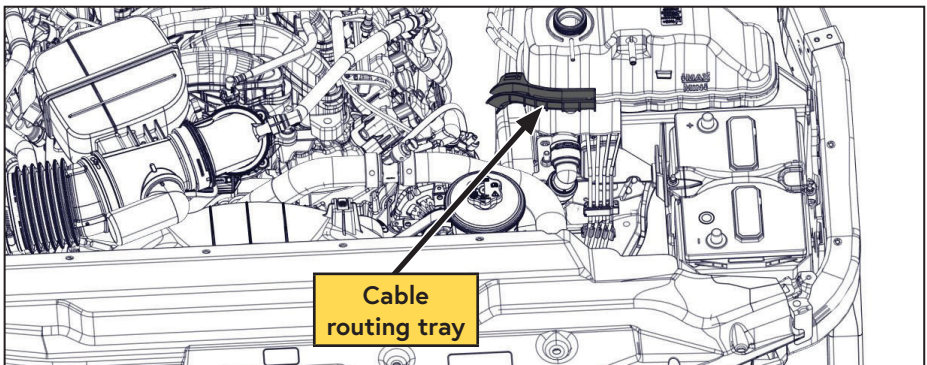

Figure 6 — Secure battery wires out of the way
- If equipped:** Remove the battery wires from the routing tray and pass them to the opposite side of the engine; this provides clearance for the install (Figure 6).